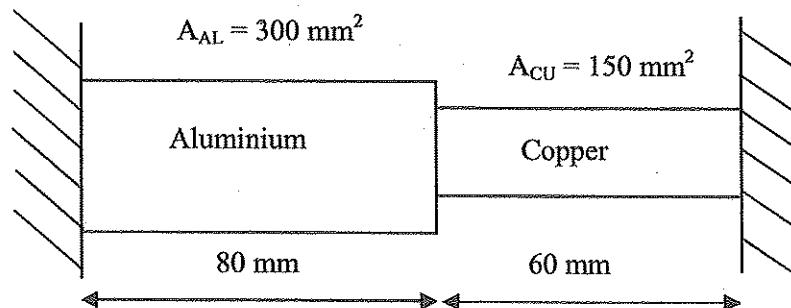

Figure 1(c) / Rajah 1(c)
- (c) A series of bar consists of copper and aluminium bar which is fixed in between two rigid walls as Figure 1(c). Determine the thermal stress induced in each bar if the temperature is increased by  $80^{\circ}\text{C}$ . Given that  $E_{\text{aluminium}} = 69 \text{ GNm}^{-2}$  and  $E_{\text{copper}} = 112 \text{ GN/m}^2$ ,  $\alpha_{\text{aluminium}} = 23 \times 10^{-6} /^{\circ}\text{C}$ ,  $\alpha_{\text{copper}} = 17 \times 10^{-6} /^{\circ}\text{C}$ .